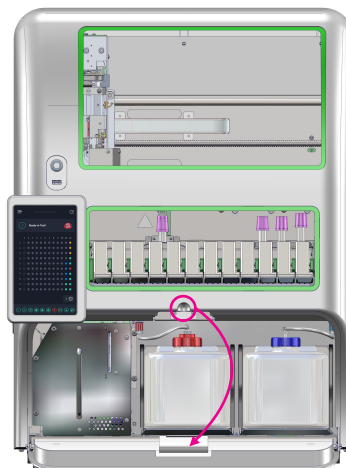

Figure 60
1. Open the front door to access the Bottle Compartment (Figure 60).